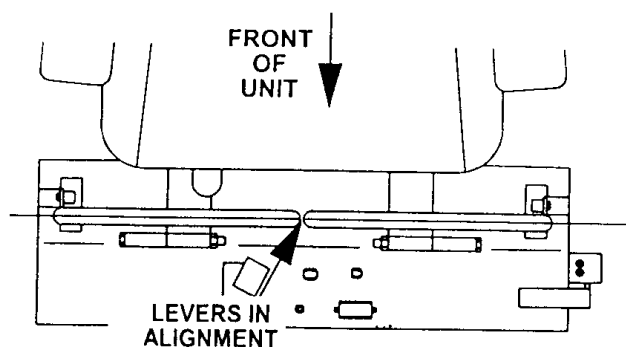

Figure 4
- If the ends of the levers hit against each other, while in the drive position (Fig 4) (levers rotated in as far as possible) make adjustments by moving the levers outward to the neutral lock position and carefully bend them outward. Move them back to the drive position and check for clearance. Repeat if necessary.